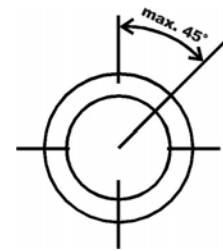

Fig. 1
- ↺ The switches should only be installed in a vertical position, deviation max. 45° (Fig. 1).